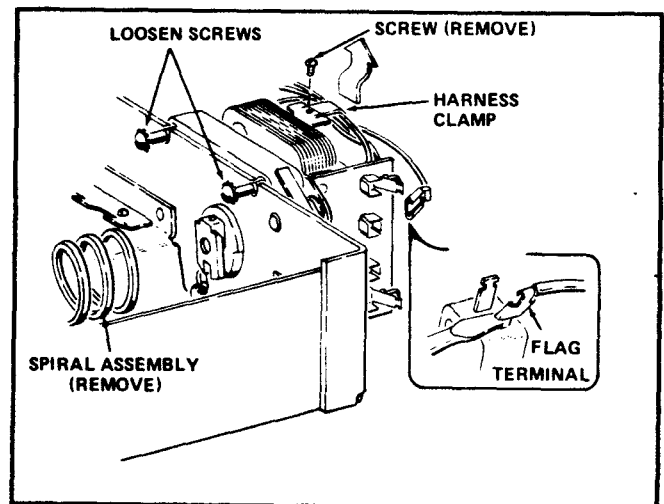

FIGURE I-1
5. Remove the Spiral Assembly. See Figure I-1.
8. Remove all Flag Terminals from the Vend Motor Terminal Board and Vend Motor Switch. Insert a thin-bladed screwdriver behind the terminal and push or pull with a rocking motion to slide the Terminal off the Contact. Spreading the Terminal makes reuse impossible. See Figure I-1.